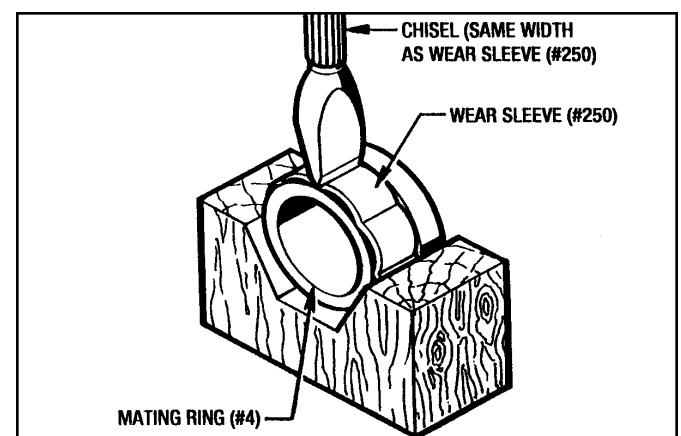

Figure 7.3 - Wear Sleeve Removal (#20 Posidyne Only)
2. With a chisel the same width as the Wear Sleeve (#250) make about 5 or 6 notches in the Wear Sleeve, as shown in Figure 7.3. It can now be removed from the Mating Ring by hand.
3. Remove (6) Screws (#63) and remove the Bearing Retainer (#7) taking care not to damage the lip of the Oil Seal (#31).
7. Use the same procedure as described in **Section 7-11 WEAR SLEEVE REMOVAL PROCEDURE (Figure 7.3)** to remove the Wear Sleeve (#250) from the Mating Ring (#4).